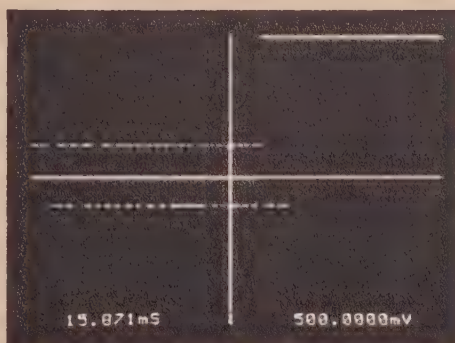

Figure 6-2
6.1.14. Position the crosshair over the level with the majority of data points, (Figure 6-2).